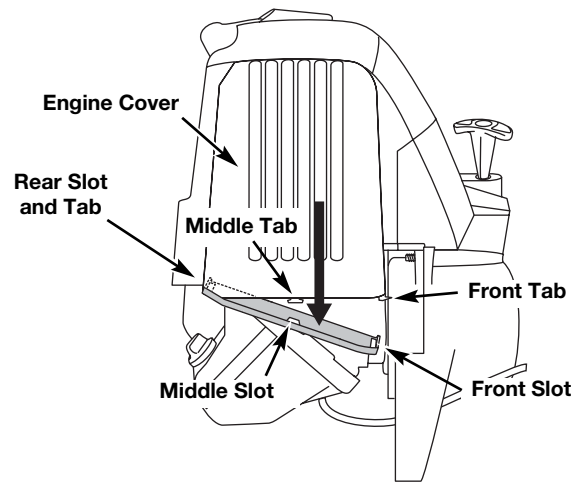

Fig. 30
1. Remove the muffler cover by pressing down on it, separating it from the engine cover. Using a flat blade screwdriver, disengage the middle and front tabs and slots first. The cover will hinge off from the rear tab (Fig. 30).
13. Reinstall the muffler cover. Slip the rear tab on the muffler cover into the engine cover rear slot. Then slide the remaining slots into the tabs until they snap into place (Fig. 30).